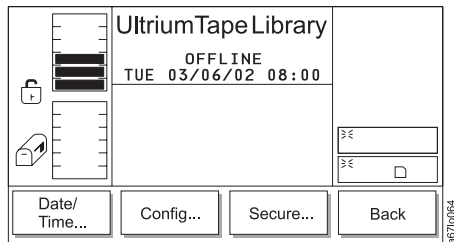

Figure 4-125. Utils Submenu
2. Press the button below the **Utils** softkey. The Utils Dialog displays (see Figure 4-125).